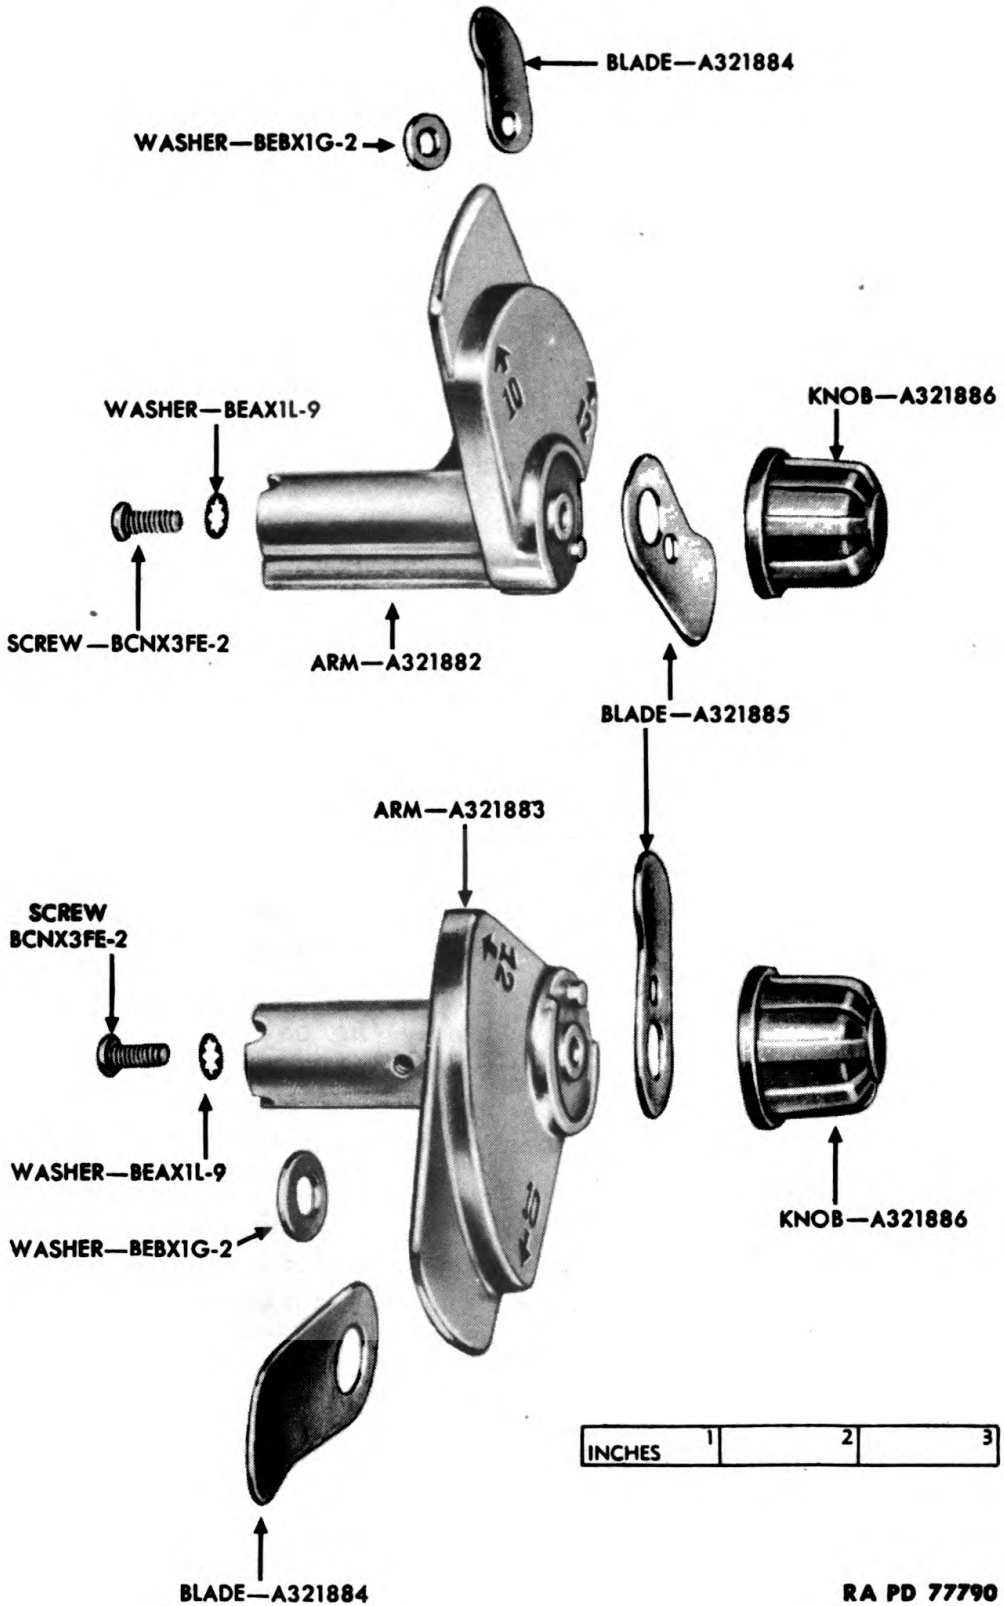

Figure 58 — Arms With Blades — Parts
(5) Remove the turntable (fig. 57) by pulling it from the spindle. Remove the arm and blade assemblies by removing the two screws fastening them to the post. The parts of the arm and blade assembly are shown in figure 58.